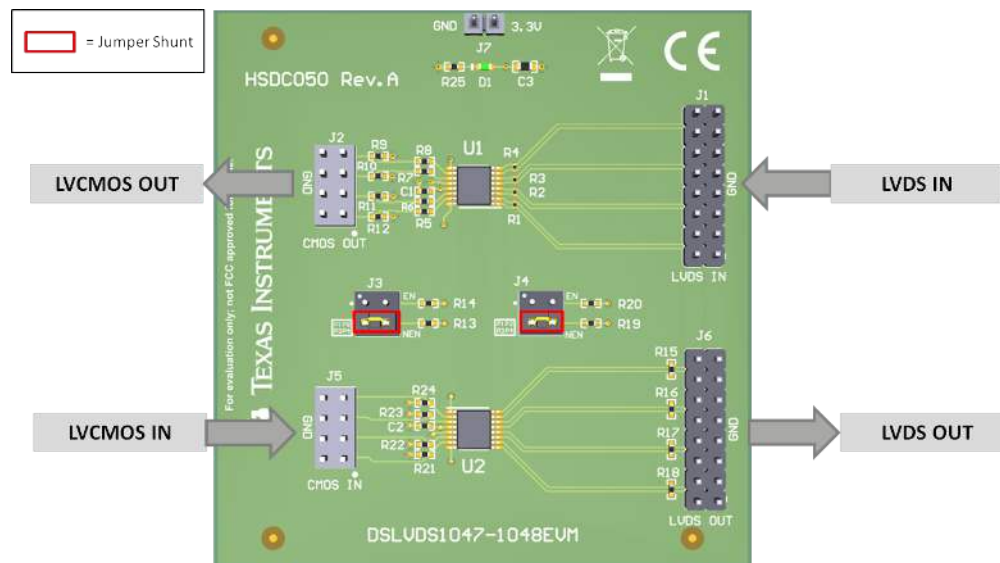
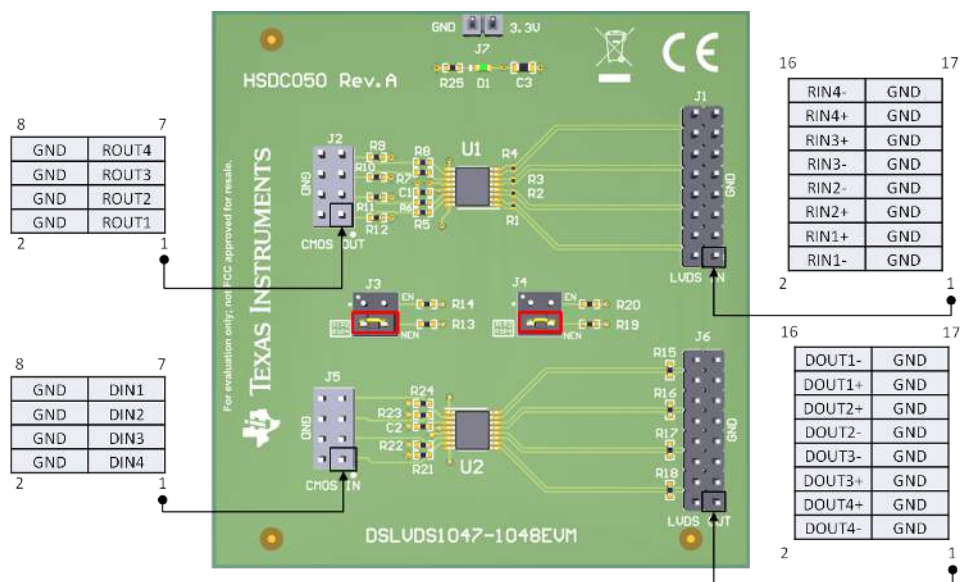
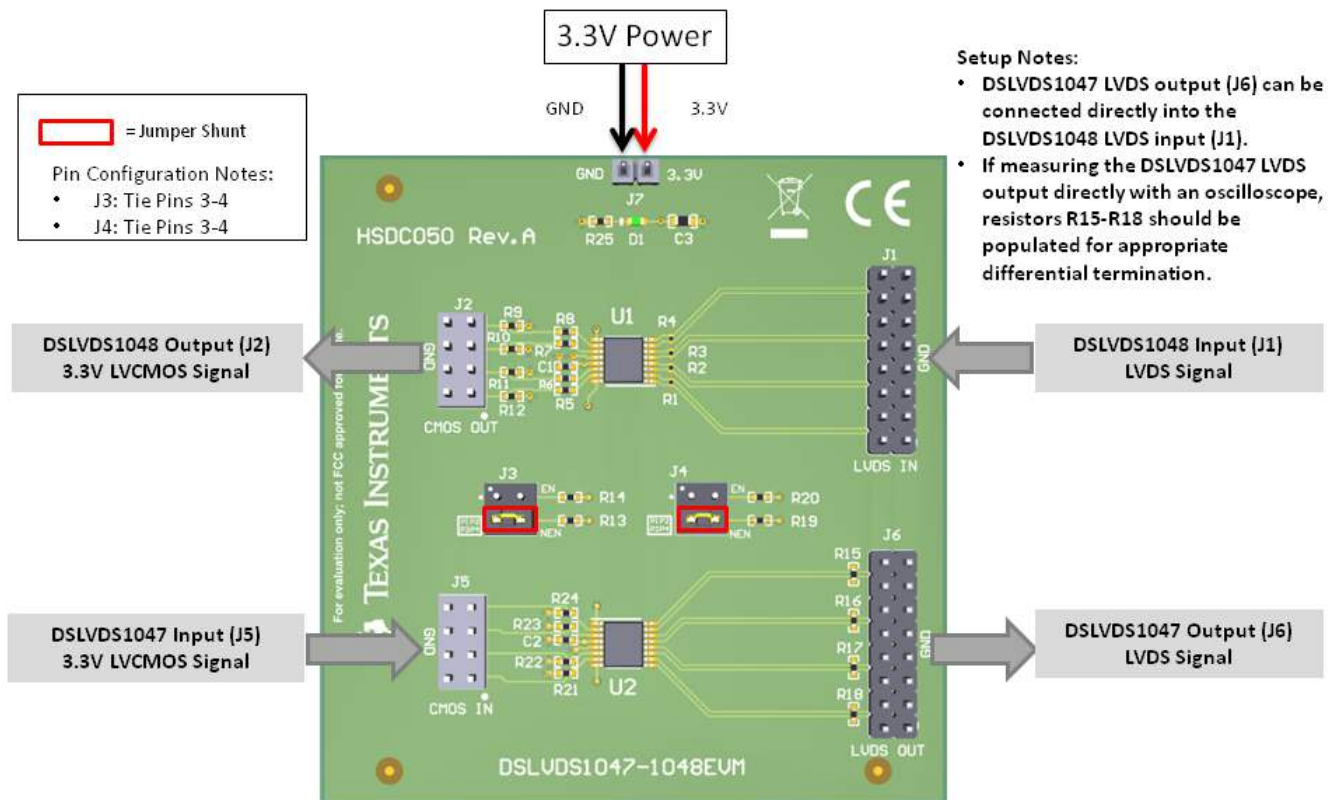

Figure 2. DSLVDS1047-1048EVM Input and Output Diagram
Figure 3. DSLVDS1047-1048EVM Input and Output Header Connections
Figure 4. DSLVDS1047-1048EVM Setup Configuration
The DSLVDS1047 is a LVDS Quad CMOS Differential Line Driver, and the DSLVDS1048 is a LVDS Quad CMOS Differential Line Receiver. When operating the DSLVDS1047-1048EVM, jumper setting definitions can be referenced in Table 1, while signal input and output connection descriptions can be found in Figure 2 and Figure 3. When using the DSLVDS1047 and DSLVDS1048 together, the typical configuration is to connect the DSLVDS1047 outputs (J6) such that they drive the inputs of the DSLVDS1048 (J1).
For hardware setup and connections, reference the diagrams in Figure 3 and Figure 4.
2. Install a shunt jumper on J3 Pins 3-4 to tie DSLVDS1048 NEN to GND and install a shunt jumper on J4 Pins 3-4 to tie DSLVDS1047 NEN to GND for appropriate operation, as shown in Figure 4.
The following plots show typical waveforms measured on the DSLVDS1047-1048EVM inputs and outputs using the hardware setup in Figure 4. For these measurements, the following parameters were used: